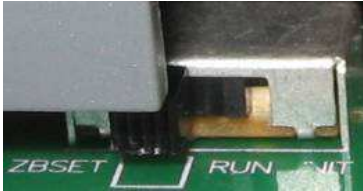
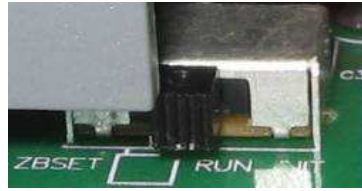

Figure 1
Figure 2
1. Before configuring the ZigBee converter, adjust the switch to the ZBSET position then switch on the power (Figure 1). After configuration is complete, adjust the switch to the RUN position then switch on the power (Figure 2). Be sure to turn the power off before adjusting the switch.